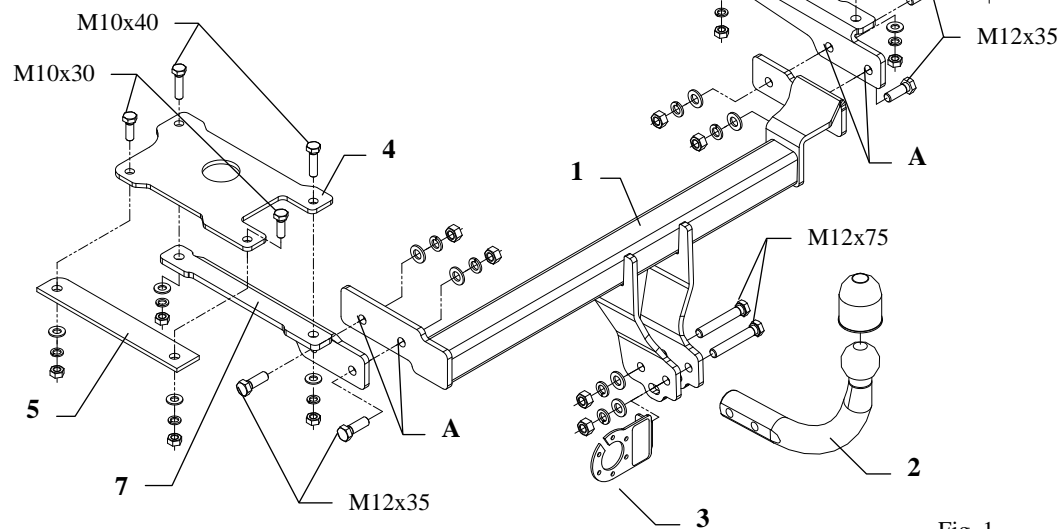
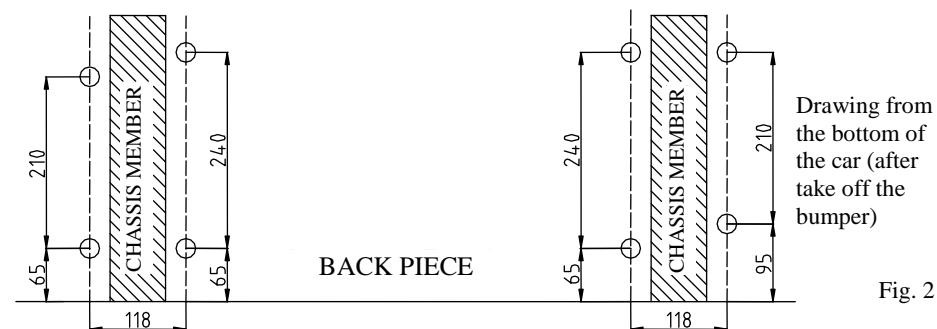

Fig. 1
Fig. 2
3. Point out holes from the bottom of the car according to the fig. 2 (above). Then drill holes $\varnothing 11\text{mm}$ (drillings fall out in places of the pressure welding of chassis members with the floor of the car) – make carefully and precisely.
4. Apply properly large fish-plates (pos. 4 and 6) onto made holes (inside the trunk).
5. Apply side brackets (pos. 7 and 8) from the bottom of the car and through large fish-plates (pos. 4 and 6) fix properly with bolts M10x40mm – pos. 11 (see fig. 1).
6. Apply fish-plates (pos. 5) from the bottom of the car and through large fish-plates (pos. 4 and 6) fix properly with bolts M10x30mm – pos. 12 (see fig. 1).
7. To side brackets through holes (pos. A) fix the main bar of the towing hitch (pos. 1) using bolts M12x35mm (pos. 10).
10. To so prepared towing hitch fix tow-ball (pos. 2) with socket plate (pos. 3) using bolts M12x75mm (pos. 9) from towing hitch accessories.